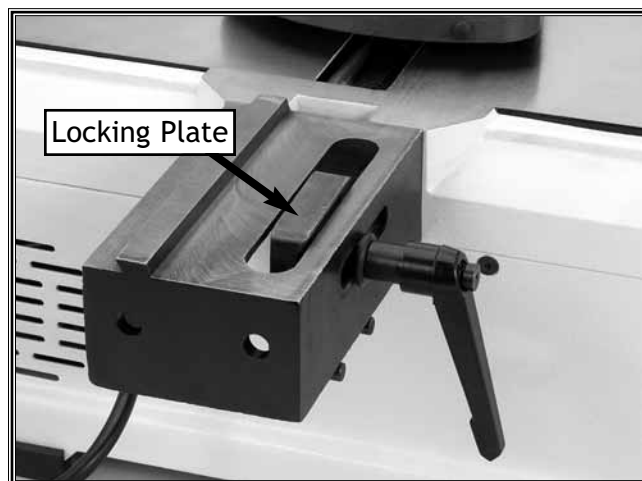

Figure 10. Secured locking plate.
3. Secure the locking plate assembly to the fence support with the fence sliding handle (Figure 10).